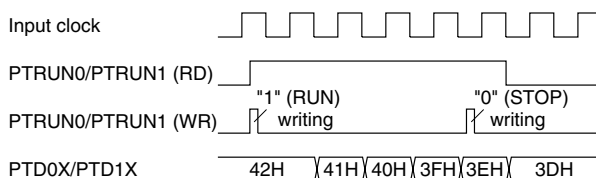

Fig. 5.2.1 Timing chart for RUN/STOP control
- (1) When reading counter data, be sure to read the low-order 4 bits (PTD00–PTD03, PTD10–PTD13) first. Furthermore, the high-order 4 bits (PTD04–PTD07, PTD14–PTD17) should be read within 0.73 msec (when f_{OSC1} is 32.768 kHz) of reading the low-order 4 bits (PTD00–PTD03, PTD10–PTD13).
- (2) The programmable timer actually enters RUN/STOP status in synchronization with the falling edge of the input clock after writing to the PTRUN0/PTRUN1 register. Consequently, when "0" is written to the PTRUN0/PTRUN1 register, the timer enters STOP status at the point where the counter is decremented (-1). The PTRUN0/PTRUN1 register maintains "1" for reading until the timer actually stops. Figure 5.2.1 shows the timing chart for the RUN/STOP control.